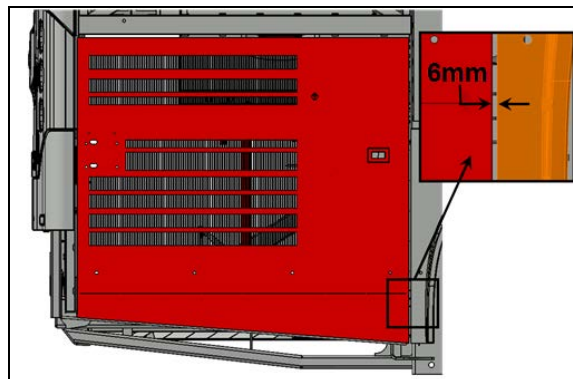

FIGURE 50
7. Check the gap between the door and the adjacent panel at the level of the lower attachment point of the arm on the door. The gap should be 1/4" (6 mm) (FIGURE 50).